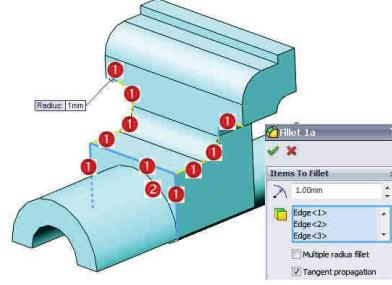

Fig. 2.31
**16 Racordare muchii R1:** comanda **Fillet** - Fig. 2.31 -  $\Delta_{r1}$  rază R1 / selecție muchii ① /  .
**16 How to fillet an R1 edge:** the **Fillet** command - Fig. 2.31 –  $\Delta_{r1}$  R1 radius / select edges ① /  .
**17 Racordare muchie R1:** comanda Fillet - Fig. 2.31 - rază R1 / selecție muchie ② /
**17 How to fillet an R1 edge:** the Fillet command - Fig. 2.31 – R1 radius / select edge ② /